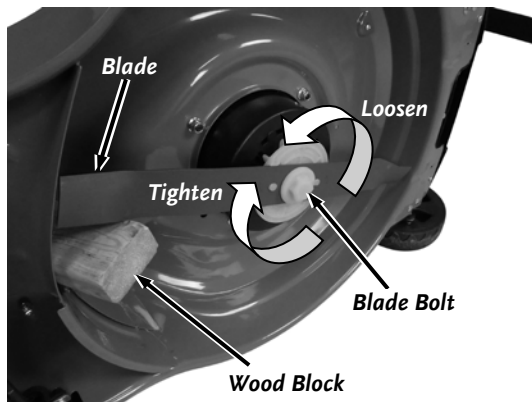

Figure 18
2. Use a block of wood to hold the blade steady (**Figure 18**).